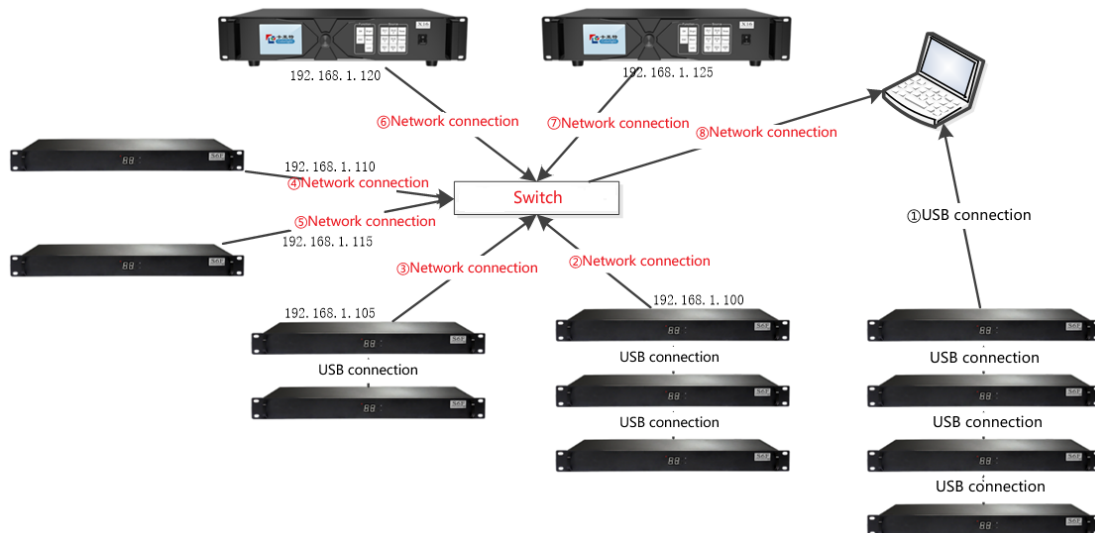

Fig 4.4-2 Device mapping
There are 11 sets of S6F and 2 sets of X16 in Figure 4.4-2. The mapping includes:
The mapping shown in Figure 4.4-2 is displayed as **Device set** in iSet: ① is displayed as **USB device**; ② is displayed as **Internet-USB: S6F (192.168.1.100)**; ③ is displayed as **Internet-USB: S6F (192.168.1.105)**; ④⑤ are displayed as **Star network: S6F**; ⑥⑦ are displayed as **Star network: X16**.